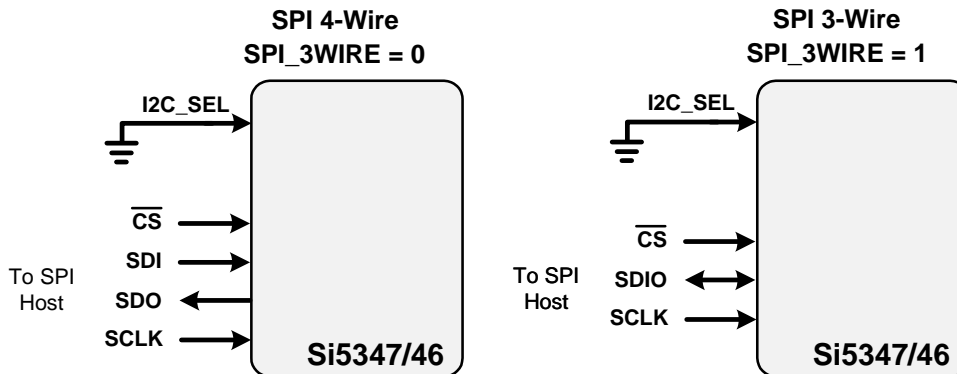

Figure 26. SPI Interface Connections
Data is transferred MSB first in 8-bit words as specified by the I²C specification. A write command consists of a 7-bit device (slave) address + a write bit, an 8-bit register address, and 8 bits of data as shown in Figure 26. A write burst operation is also shown where subsequent data words are written using to an auto-incremented address.
When in SPI mode, the serial interface operates in 4-wire or 3-wire depending on the state of the SPI_3WIRE configuration bit. The 4-wire interface consists of a clock input (SCLK), a chip select input (CS), serial data input (SDI), and serial data output (SDO). The 3-wire interface combines the SDI and SDO signals into a single bidirectional data pin (SDIO). Both 4-wire and 3-wire interface connections are shown in Figure 26.